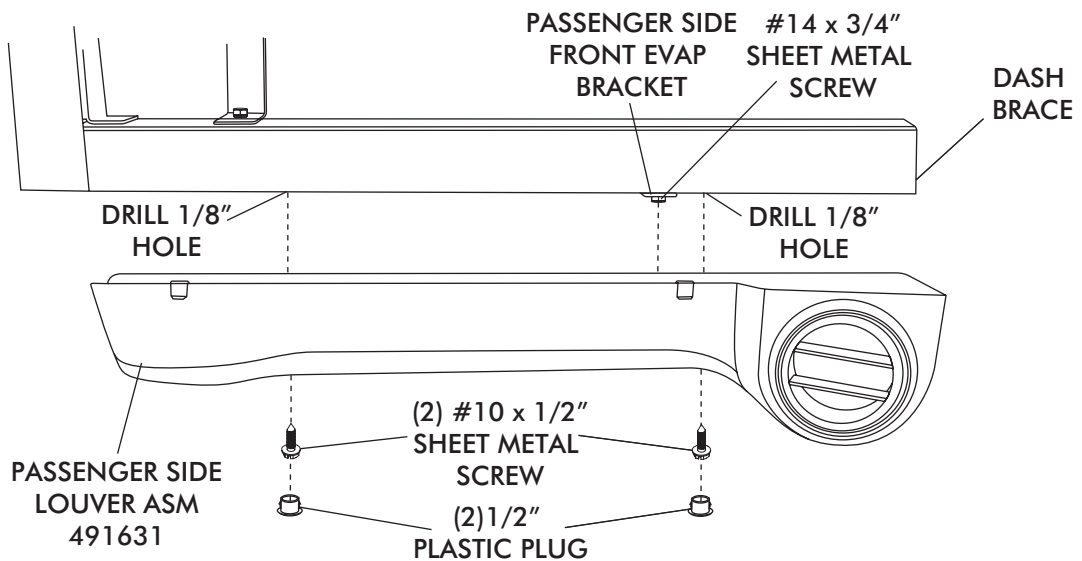

FIGURE 15
- ALIGN PASSENGER SIDE UNDER DASH LOUVER TO DASH BRACE USING PASSENGER SIDE FRONT EVAP BRACKET AND #14 x 3/4" SHEET METAL SCREW, DRILL (2) 1/8" HOLES IN DASH BRACE AND SECURE USING (2) #10 x 1/2" SHEET METAL SCREW AS SHOWN BELOW IN FIGURE 15.